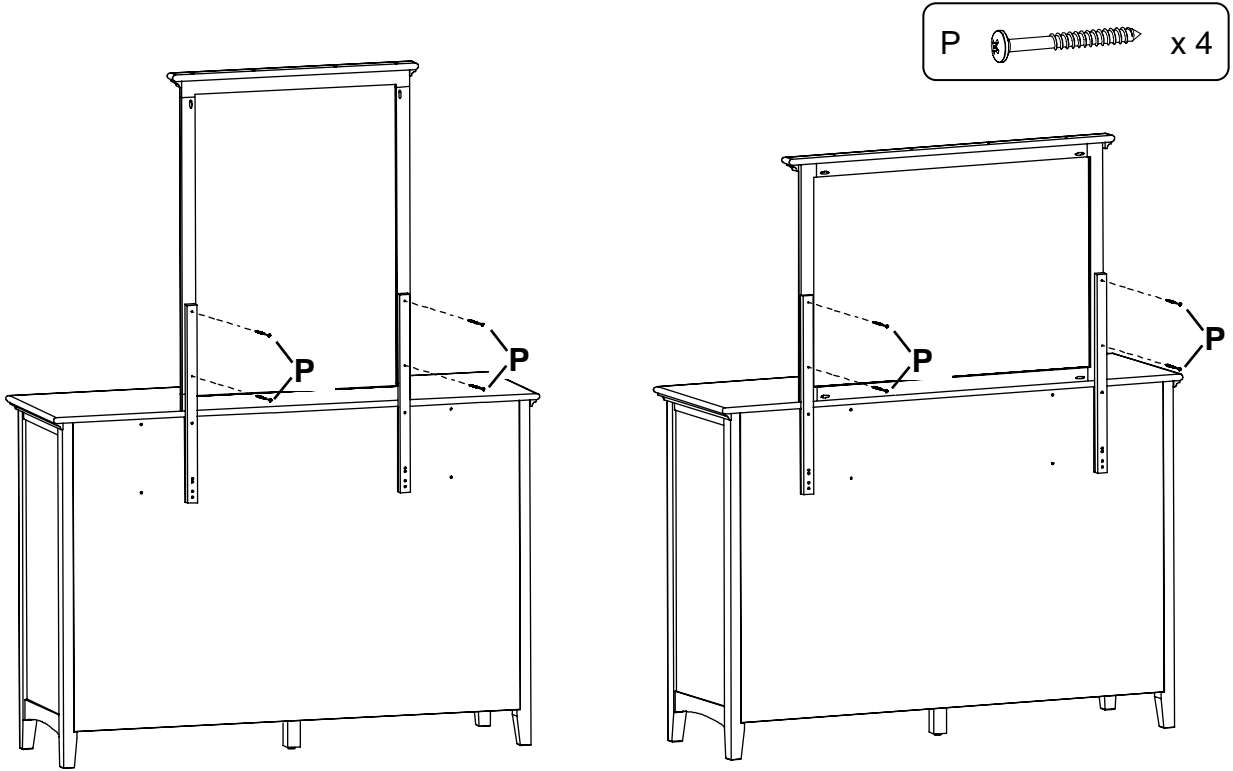

Fig. 13
13. Place the Mirror on top of the Dresser and attach it to the Mirror Supports (N) with four #7 x 1-1/2" Black Pan Head Screws (P). See Figures 13 and 13a.